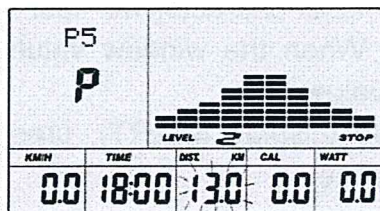

fig 27
D. The distance setting will flash, then press (or rotate) UP, DOWN button to set up the desired distance value. Press ENTER to confirm the value. (See fig 27)